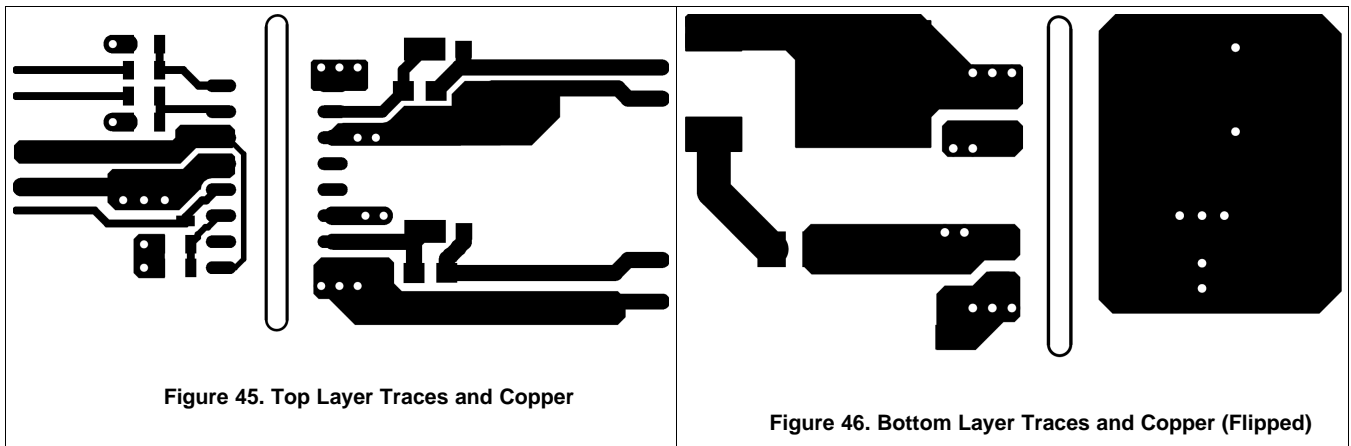

Figure 45. Top Layer Traces and Copper
- Increasing the PCB copper connecting to VDDA, VDDB, VSSA and VSSB pins is recommended, with priority on maximizing the connection to VSSA and VSSB (see Figure 45 and Figure 46). However, high voltage PCB considerations mentioned above must be maintained.
Figure 45 and Figure 46 shows top and bottom layer traces and copper.